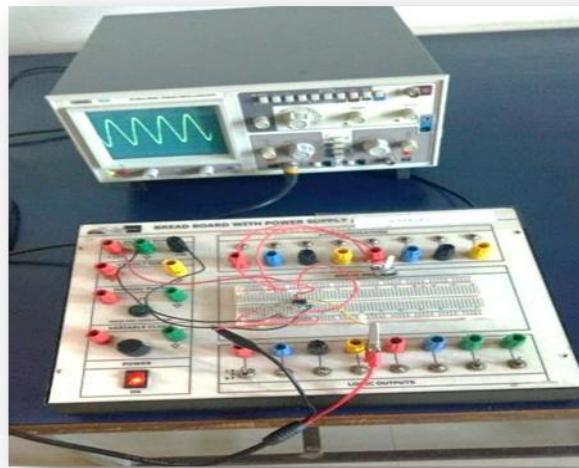

**Figure 13.1 Circuit diagram of RC phase shift oscillator**
2. Connect the circuit as per the circuit diagram as shown in figure 13.1 .